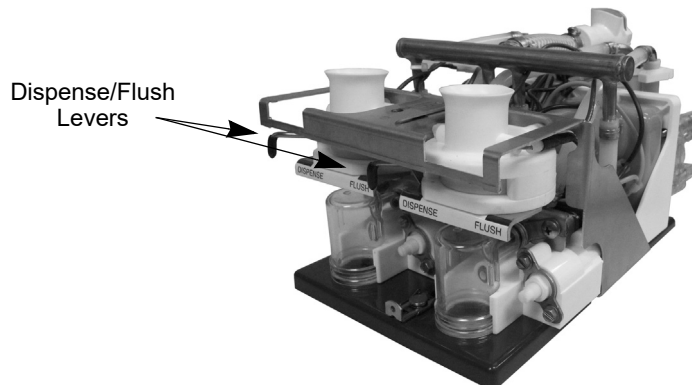

Figure 10. Dispense/Flush Lever Location
1. Open the cabinet door and move the valve handle from the **Dispense** to **Flush** position, see Figure 10.